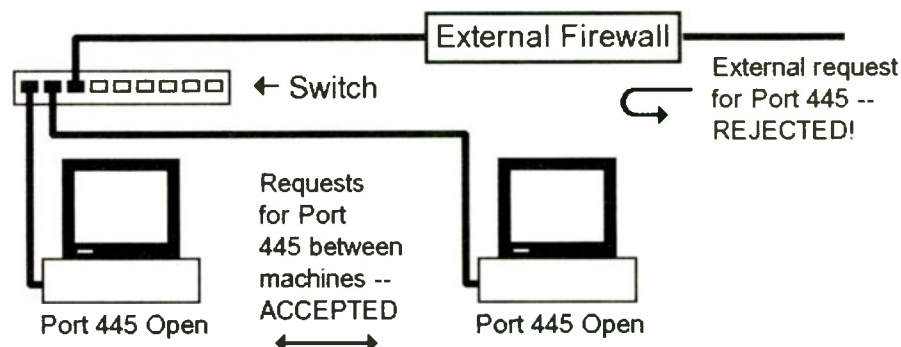

Fig. 2: An Isolated Subnetwork
In this case, if you want to share folders, fine; but that automatically implies you're going to need a firewall between that group and anyone outside of that group. You can't depend on the individual Windows' firewalls in each PC to protect you. You will need a separate firewall for the entire group. See Fig. 2.
- Several machines on your network use DCOM to talk among themselves. This was the case with our Prophet network. When I tried to disable or block it, NexGen stopped working. The cure was to isolate these PCs into a separate subnet with an external firewall, as shown in Fig. 2.